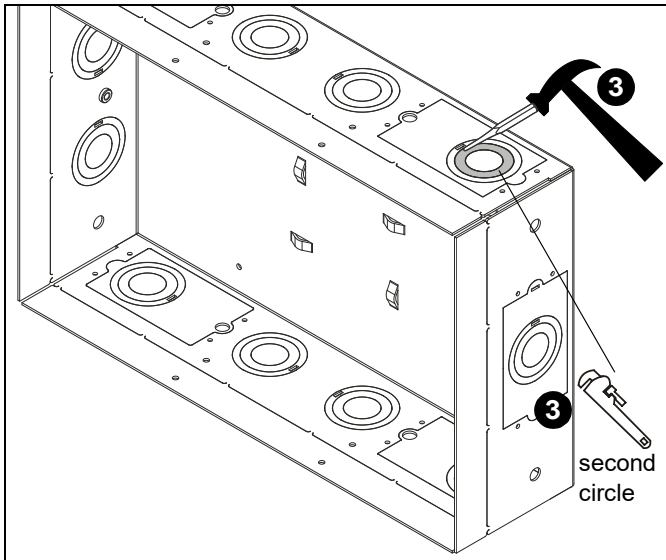

Figure 4
- Remove second circle by knocking it out from the outside using a punch tool and hammer. Use locking pliers to remove. (See Figure 4)